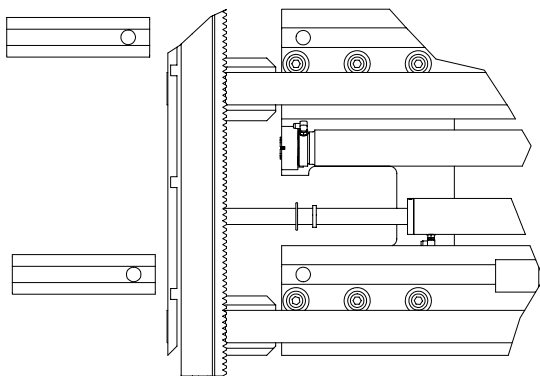

Figure 6-13, Body Wear Strips (one-piece)
6. Insert new wear strip center pieces with the retainer plug hole first. Insert the wear strip upper section. Use the rubber mallet to tap into channel. Tap the wear strip in far enough to leave a lip on the channel to start the last end piece. Insert the last wear strip end piece with the retainer plug hole out and tap into place lining up the retainer plug hole. (Figure 6-13)